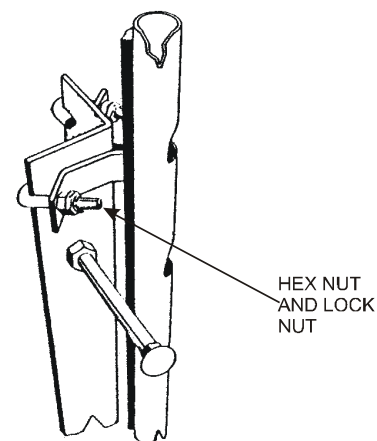

FIGURE 6
n. "Y" BRACKETS are designed for installation on angle iron structures with peg steps. See figure 6. They are furnished in two sizes for 2 1/2" to 4" and 4 1/2" to 8" angle iron legs. The recommended spacing of these brackets is 50" (4 feet 2 inches) or at every fifth bolt position with one bracket at the top of each section. The top bracket should be attached at the second bolt position from the top. With the "J" bolts loosened, raise the rail section into position, hook the "J" bolts on the angle and tighten the hex nuts and lock nuts.